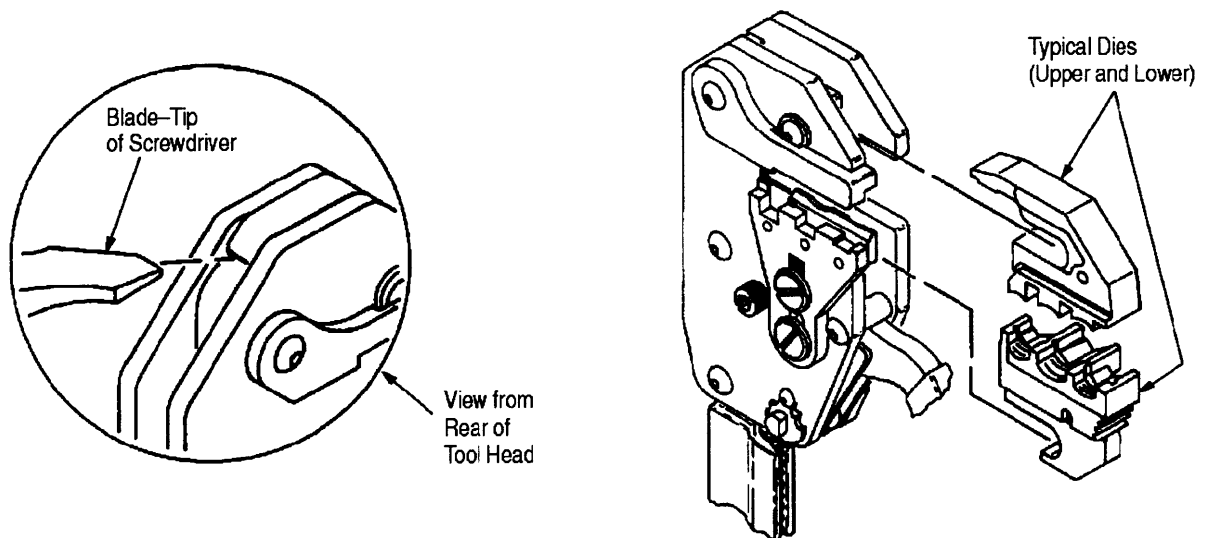

Figure 3
3.3. Die Removal (Figure 3)
1. Remove upper die by positioning the blade tip of a screwdriver behind and under the die. Push die outward and apply a rocking action to the die while pushing it out of the tool frame head. See inset, Figure 3.
3.4. Die Insertion (Figure 3)
1. Slide each die into the tool frame head as shown in Figure 3 until it "clicks" into position.